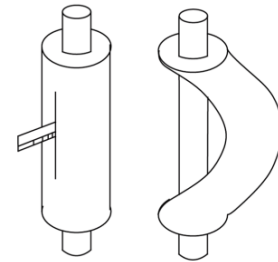

Fig. 4.3.3
- (2) Do not bend the pipe over 90° .
- (3) If pipe is repeatedly bent or stretched, it will get hard and difficult to bend and stretch again. Therefore, do not bend or stretch the bend for over 3 times.
- (4) In case that direct bending will open cracks to the pipe, first use sharp cutter to cut the insulating layer, as shown in Fig.4.3.3. Do not bend the pipe until it is exposed. When bending is done, wrap the pipe with insulating layer and then secure it with adhesive tape.